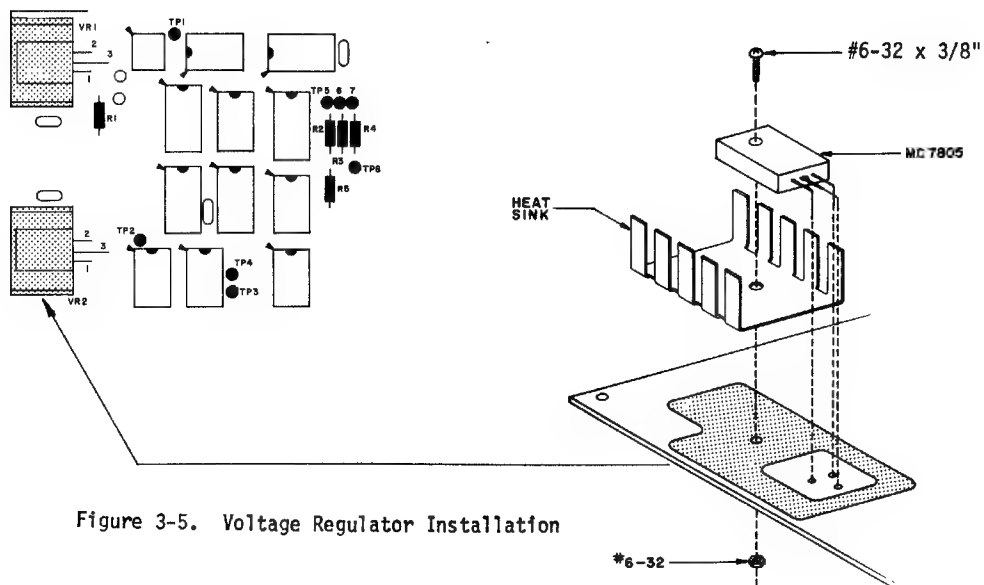

Figure 3-5. Voltage Regulator Installation
3-15. VOLTAGE REGULATOR INSTALLATION (Figure 3-5)
3. Referring to Figure 3-5, set the regulator and heat sink in place on the silk-screened (top) side of the board and secure them with a #6-32 x 3/8" screw and 6-32 nut.